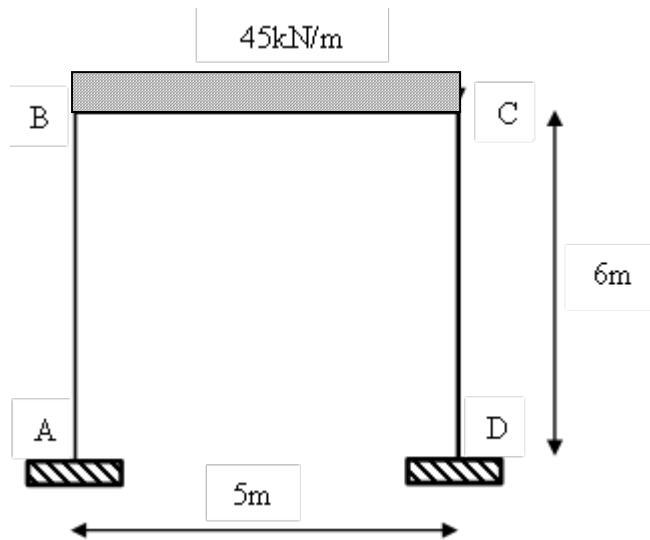

Figure B2(c) / Rajah B2(c)
- i. Calculate the final moment for each span in Figure B2(c) by using the Slope Deflection Method if Moment Equation is given as below.